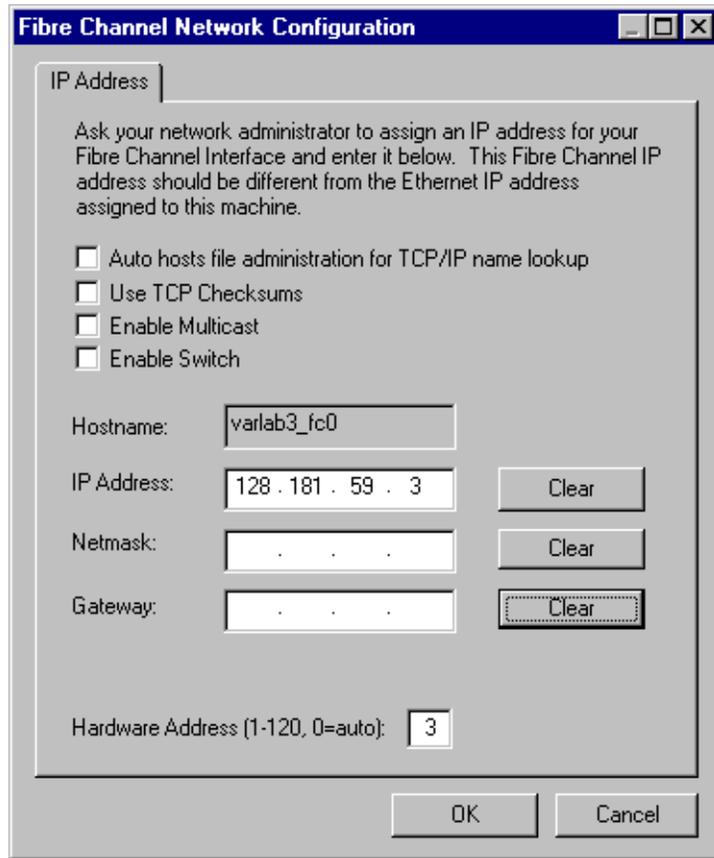

Figure 45. Fibre Channel Network Configuration dialog box
1. Choose **Option | Fibre Channel Networking** or click the **Fibre Channel Networking** button on the toolbar. The Fibre Channel dialog box appears (see Figure 45).